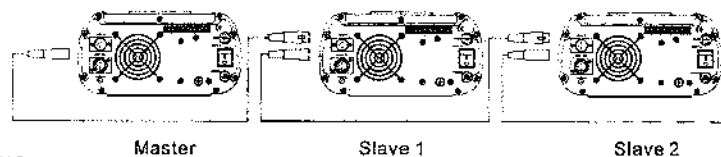

Fig. 5
4. The connection of Master/Slave Control Mode (See Fig. 5):